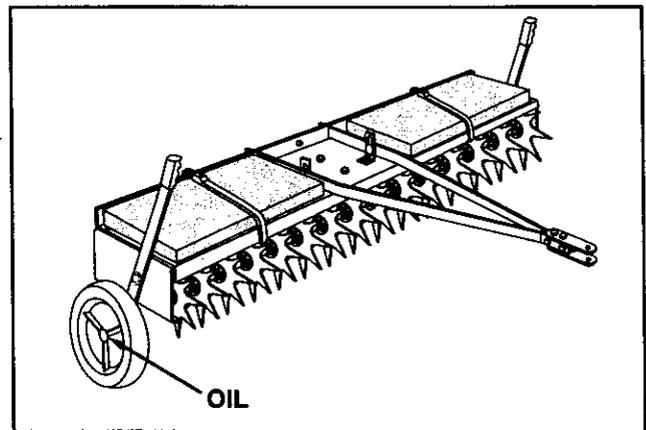

FIGURE 6
- Oil the wheel bearings at least once every season. Refer to figure 6.